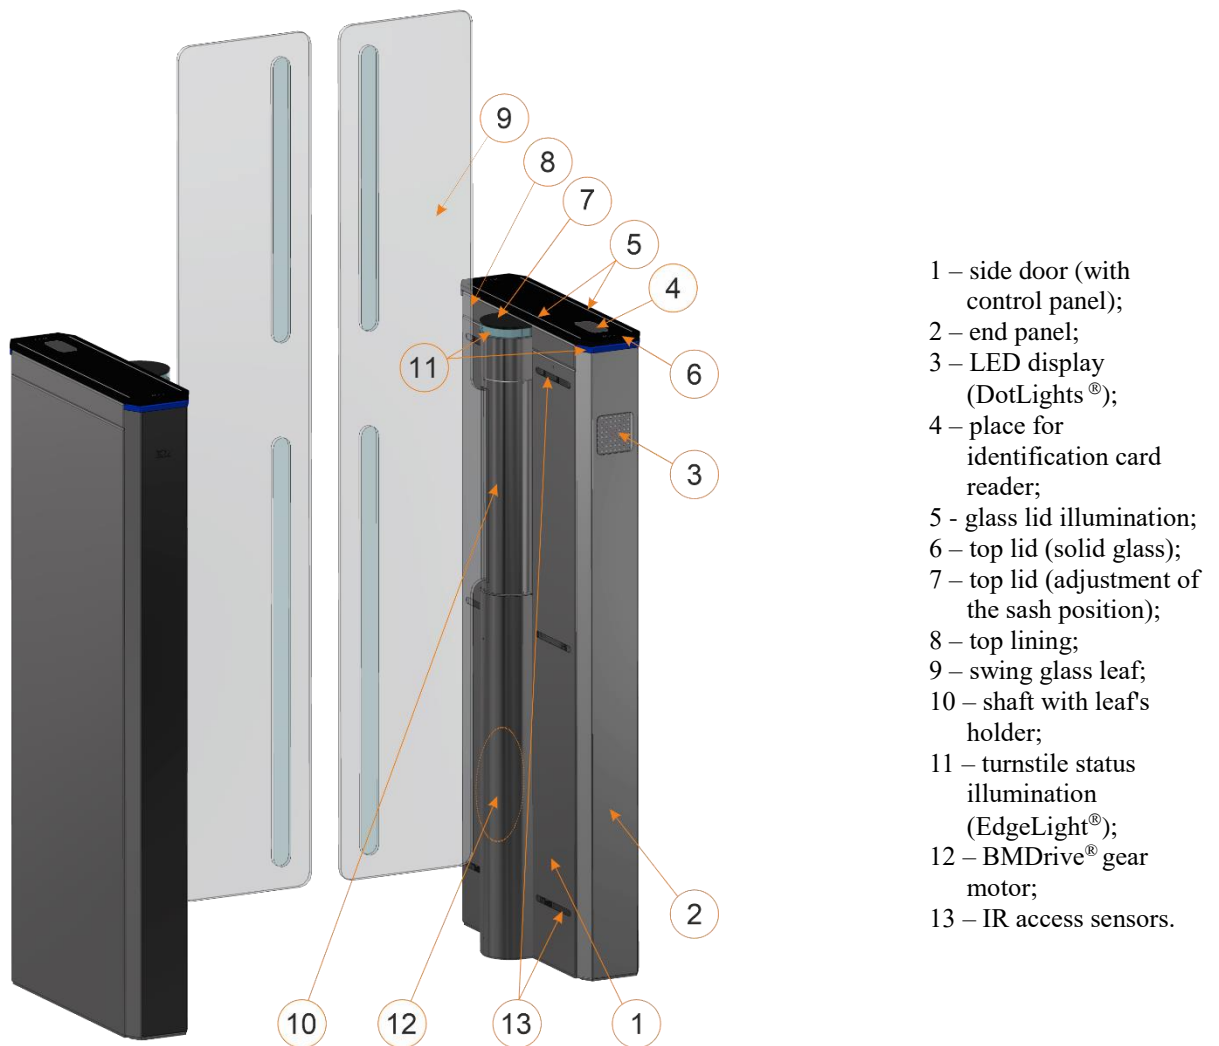

Fig. 4 – Design of the single "Sweeper-SH-1" type turnstile T3.KCD.XD
The single turnstile "Sweeper-SH-1" (See Fig. 4) consists of two one-leaf cabinets (Master and Slave).
The turnstile is one or more auxiliary cabinets " SWEEPER-SH-2" (Master/Slave) with two swing glass leafs (See Fig. 4). The number of auxiliary cabinets to be specified in the order. The turnstile " SWEEPER-SH-2" is used within group of the turnstile " SWEEPER-SH-1".
1.4.1 Turnstile design (Fig.4)